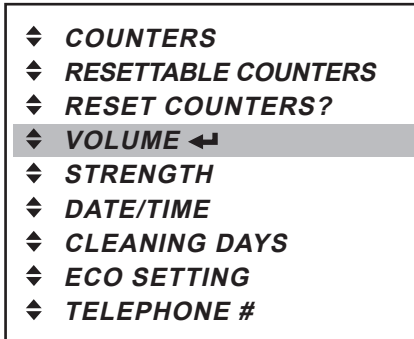

Fig. 35
1. Press the enter button  to access the «VOLUME» menu (fig. 35).